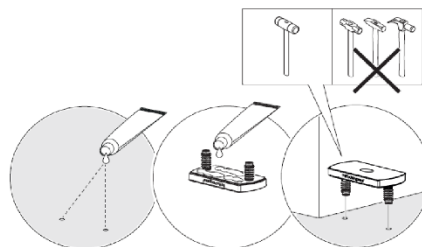

Figure 13:
6. Each door is provided with one tube of sealant (red bag attached to frame) and has a 6-month shelf life. DO NOT OPEN until ready for floorplate installation. Apply the sealant into the holes drilled and the bottom of the floor plate (Figure 13).
7. Using a soft mallet, secure the floor plate into the drill holes (Figure 13). Allow 24 hours to cure.